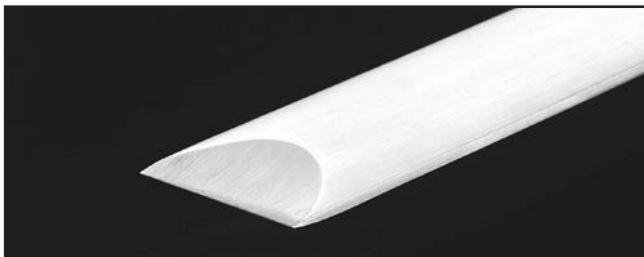

Figure 29. Skew chisel.
- **Skew Chisel**—A very versatile tool that can be used for planing, squaring, V-cutting, beading, and parting off. The skew chisel is flat, double-ground with one side higher than the other (usually at an angle of 20-40°). **Figure 29** shows an example of a skew chisel.